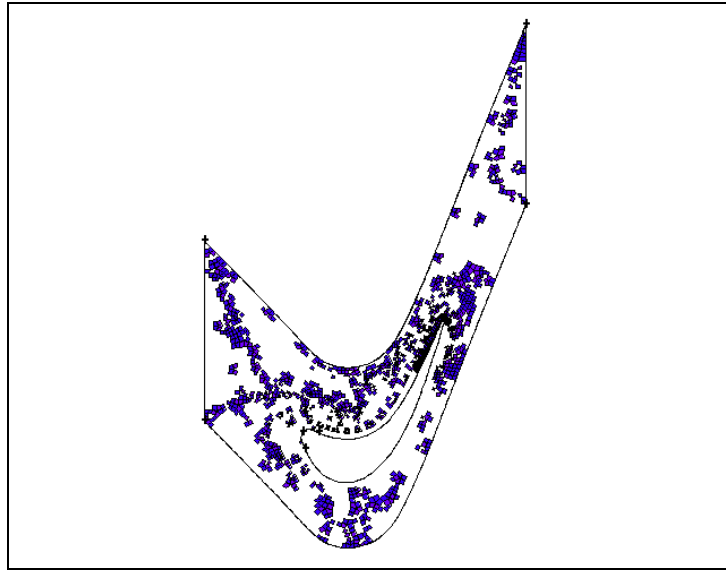

Figure 8-14: Quadrilateral mesh elements—EquiSize Skew = 0.1–0.3
*Figure 8-14 displays face mesh elements for which the EquiSize Skew parameter is between 0.1 and 0.3 for this example. (NOTE: To view the 2-D face elements shown in Figure 8-14, select the **Display Type: 2D Element** option on the **Examine Mesh form**, and specify the display of quadrilateral () elements.)*